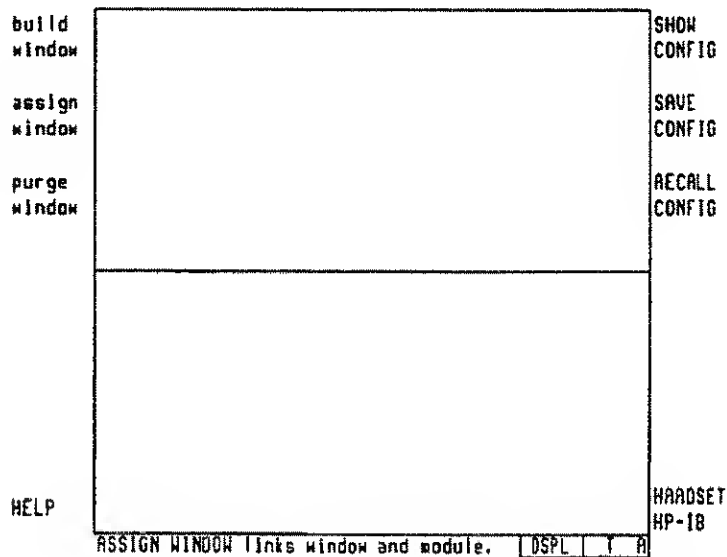

Figure 2-20. Building Two Windows
2. Build two windows as in the **build window** example, leaving the screen with two blank, unassigned windows as in Figure 2-20. The lower window should be number 1 and the upper window should be number 2.